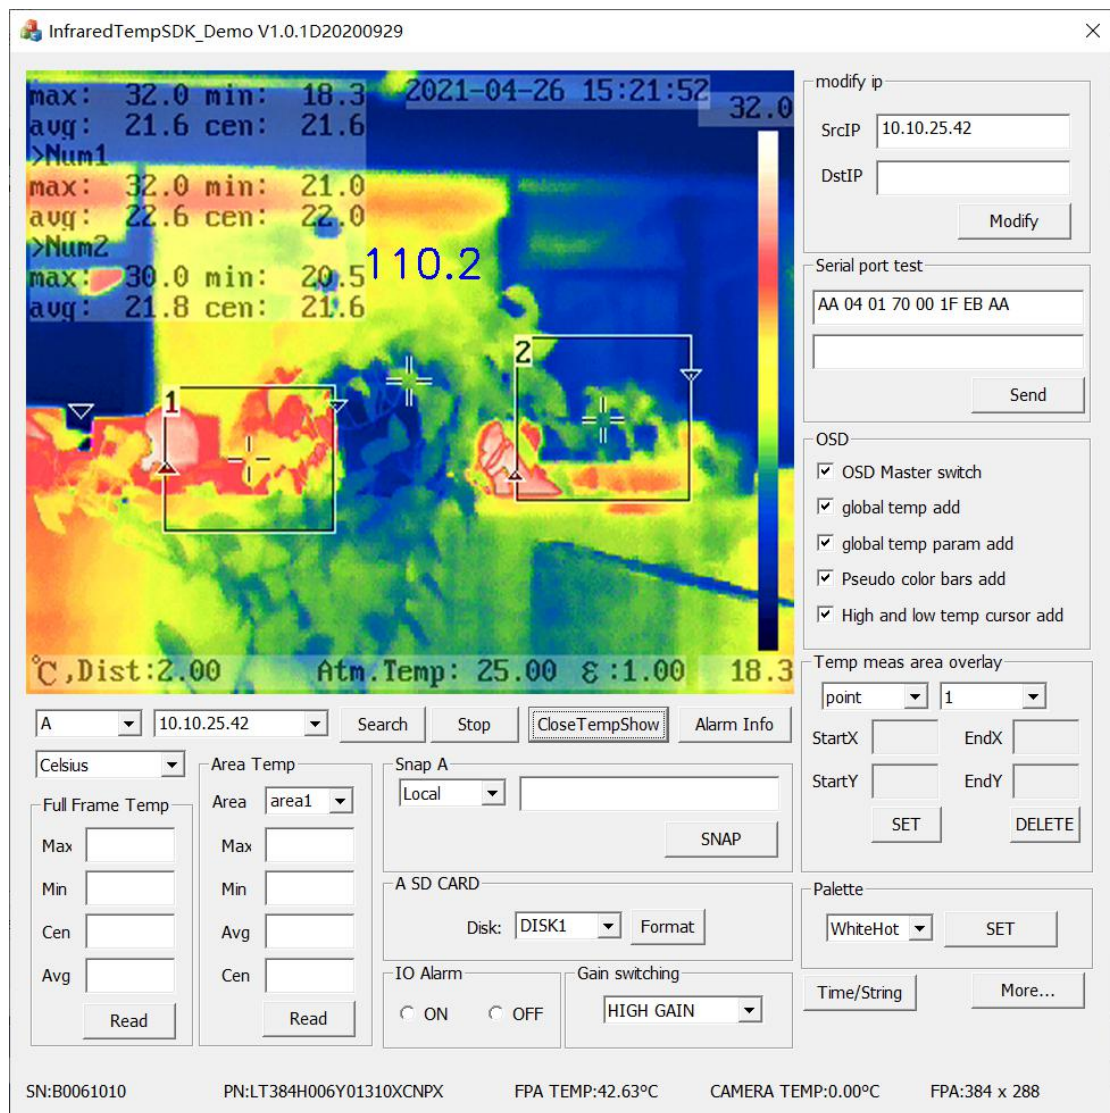

Figure 2
2. Click the “OpenTempShow” button to display temperature information with the mouse. As shown in Figure 2: